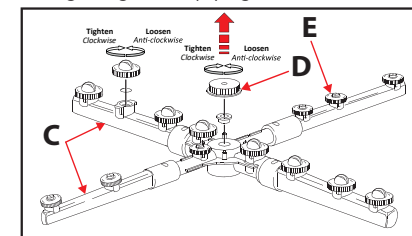

FIG. 3
1. Remove the fixing screw (D) Fig. 3 to remove the wash/rinse arms. Check that the nozzles (E) Fig. 3 are not blocked with food waste. The nozzles can be removed for cleaning if required
2. Reinstall the wash/rinse arms using fixing screw (D) Fig. 3.